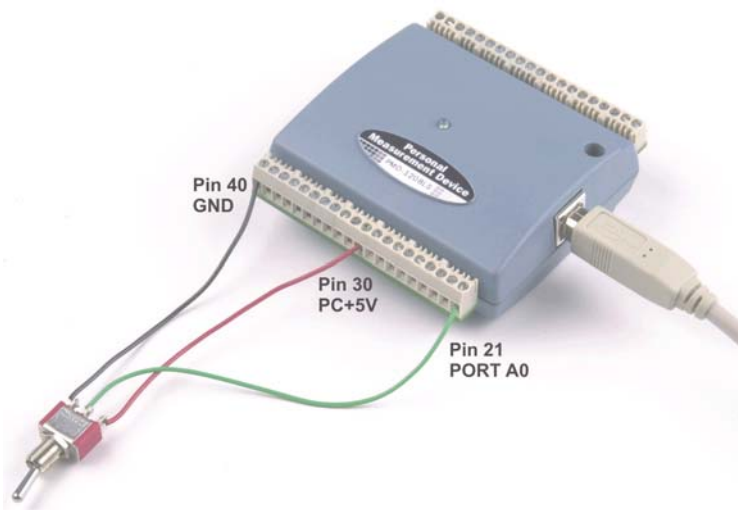
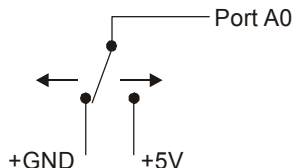

Figure 3-8. Digital connection Port A0 detecting the state of a switch
Figure 3-9. Schematic showing switch detection by digital channel Port A0
When you configure the digital bits for input, you can use the digital I/O terminals to detect the state of any TTL level input. Refer to the switch shown in Figure 3-8 and the schematic shown in Figure 3-9. If the switch is set to the +5 V input, Port A0 reads *TRUE* (1). If you move the switch to GND, Port A0 reads *FALSE* (0).